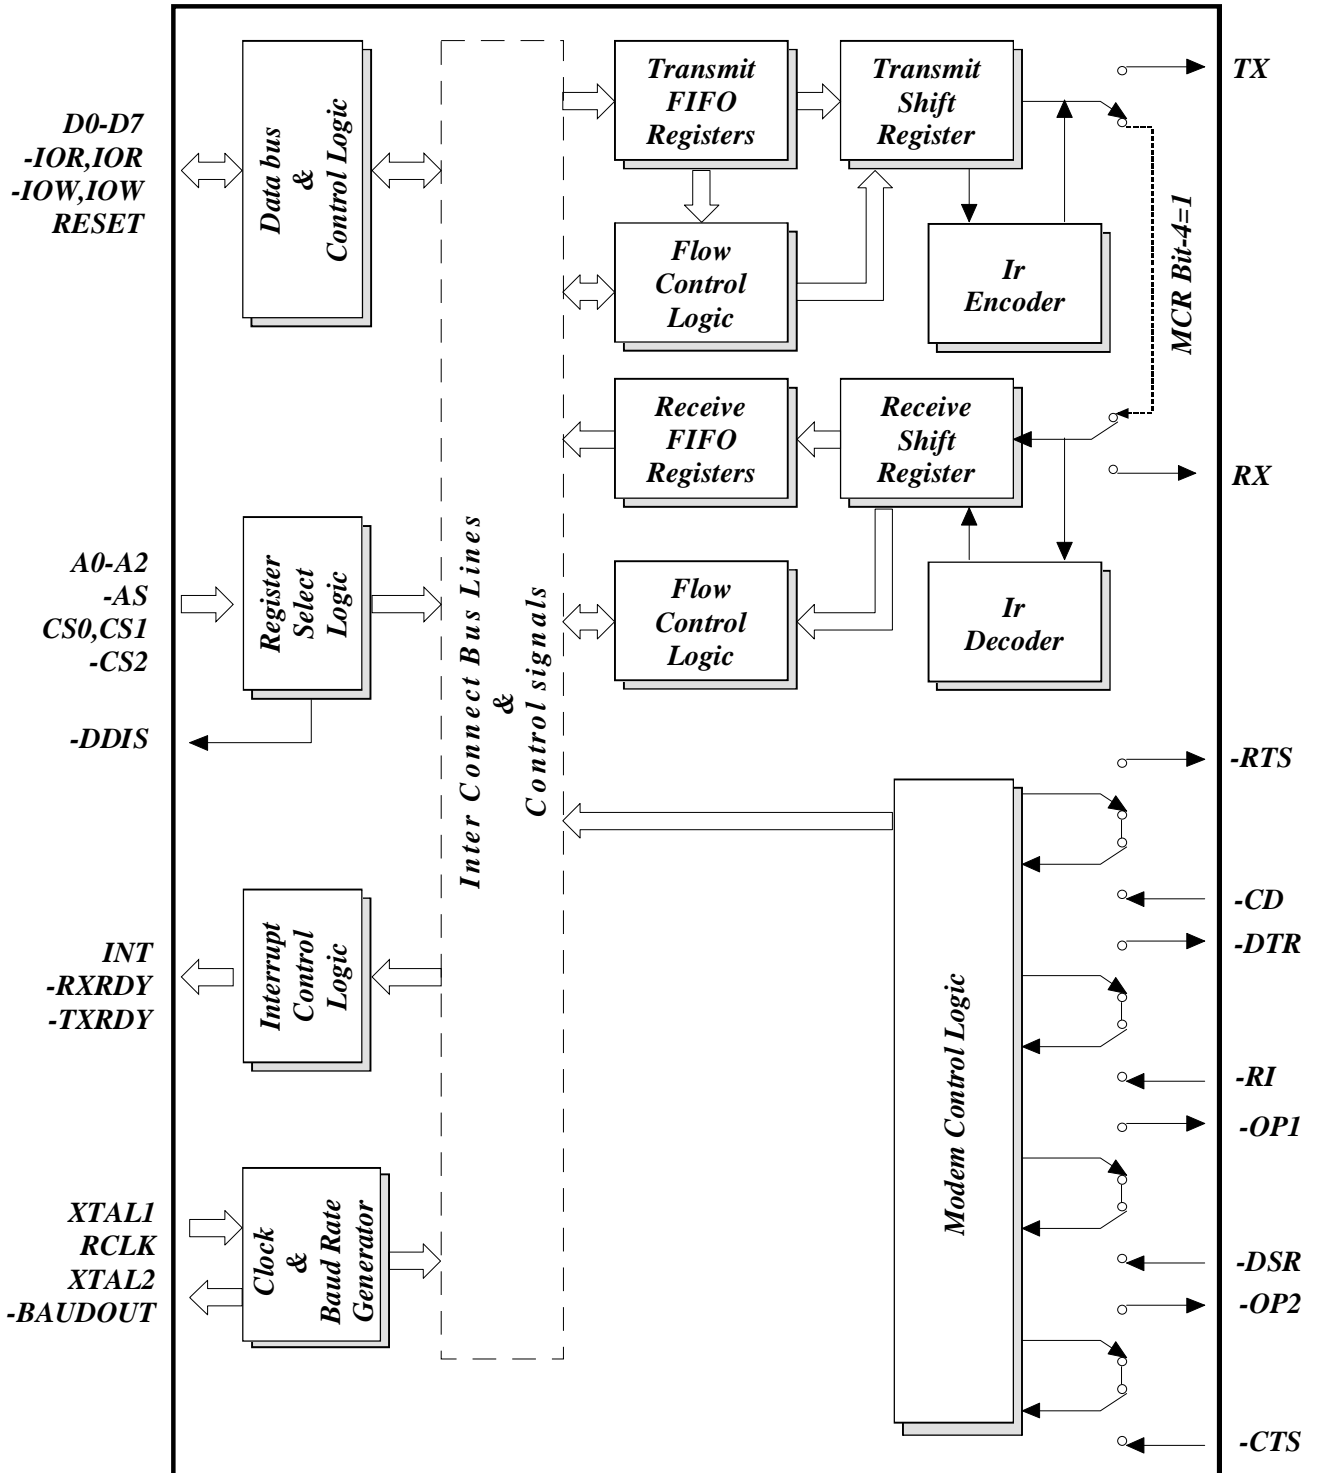

Figure 12. INTERNAL LOOPBACK MODE DIAGRAM
The internal loopback capability allows onboard diagnostics. In this mode, the normal modem interface pins are disconnected and reconfigured for loopback internally. MSR bits 4-7 are also disconnected. However, MCR register bits 0-3 can be used for controlling loopback diagnostic testing. In this mode, OP1 and OP2 in the MCR register (bits 0-1) control the modem -RI and -CD inputs respectively. MCR signals -DTR and -RTS (bits 0-1) are used to control the modem -CTS and -DSR inputs respectively. The transmitter output (TX) and the receiver input (RX) are disconnected from their associated interface pins, and instead are connected together internally (See Figure 12). The -CTS, -DSR, -CD, and -RI are disconnected from their normal modem control inputs pins, and instead are connected internally to -DTR, -RTS, -OP1 and -OP2. Loopback test data is entered into the transmit holding register via the user data bus interface, D0-D7. The transmit UART serializes the data and passes the serial data to the receive UART via the internal loopback connection. The receive UART converts the serial data back into parallel data that is then made available at the user data interface, D0-D7. The user optionally compares the received data to the initial transmitted data for verifying error free operation of the UART TX/RX circuits. In this mode, the receiver, transmitter and modem control interrupts are fully operational. However, the interrupts can only be read using lower four bits of the Modem Control Register (MCR bits 0-3) instead of the four Modem Status Register bits 4-7. The interrupts are still controlled by the IER.